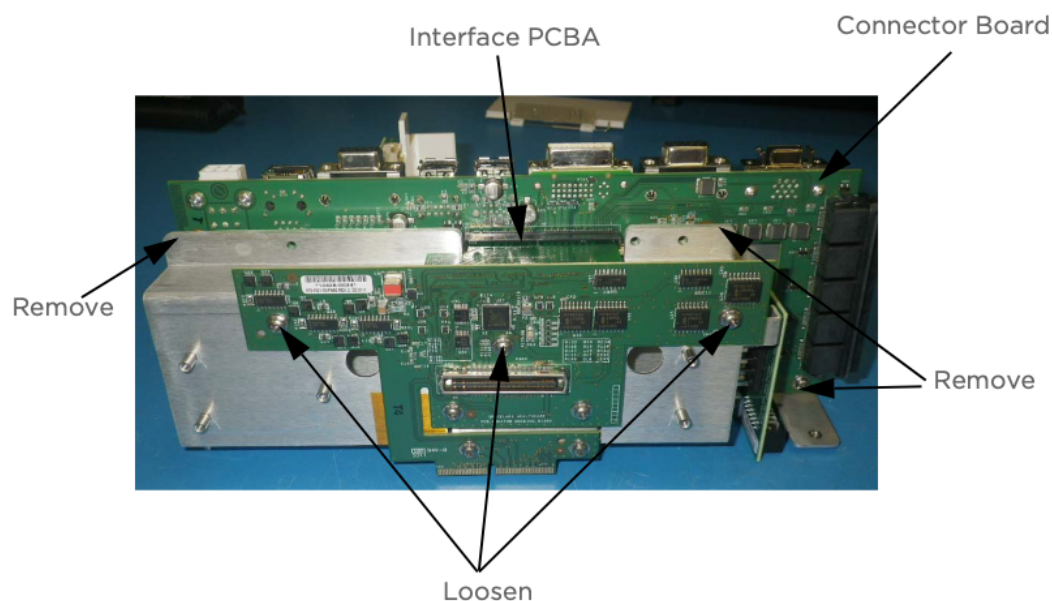

Figure 4-18 Connector Board PCB
- 2 Remove the three screws, shown in Figure 4-18 for option A. Remove the two screws for options B or C.